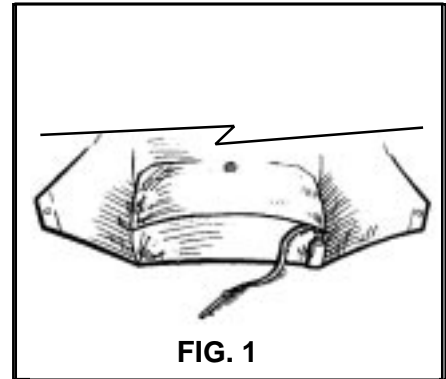

FIG. 1
1. Lay the pilot chute out flat with the mesh side up. Fold the excess bridle on top of the laid out parachute and fold the pilot chute in half over the bridle (FIG. 1).
1. Mate the velcro of the pull-out pad with the velcro under the pull-out pad cover. It's located at the right hand corner of the bottom flap (**FIG. 1**).